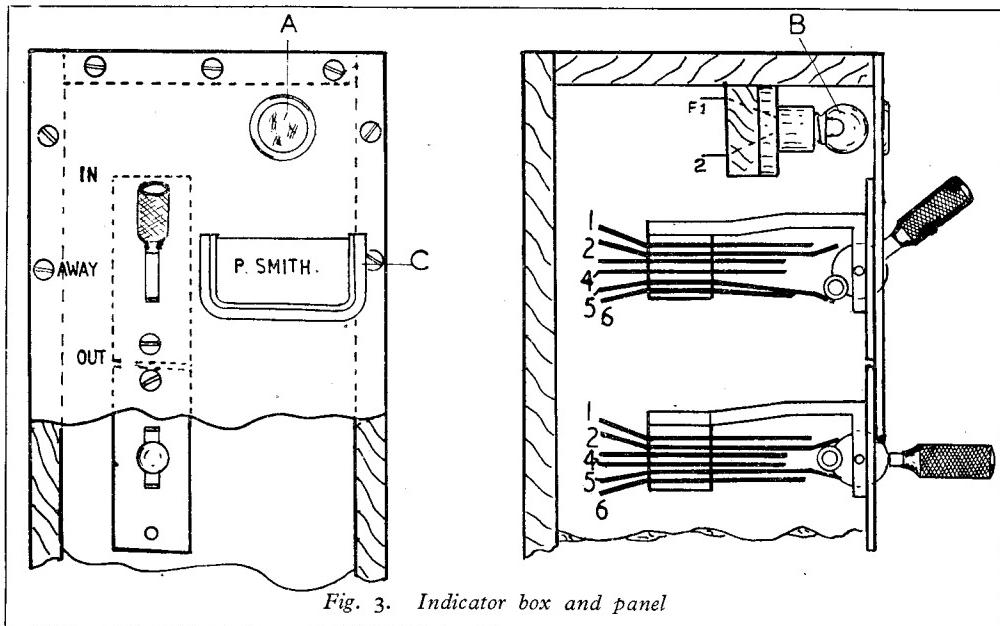

Fig. 3. Indicator box and panel
Fig. 3 shows a portion of the indicator unit,
The theoretical circuit diagram, Fig. 2, illustrates the key switches as being side-by-side, but in practice, most readers will probably prefer to place the switches vertically, as shown in Fig. 3.
*Fig. 3. Boring the headstock bearing. The cutter of the boring bar can be seen just about to start the cut. Note small gap between pulley and left-hand bearing, as mentioned in the text*
as far as possible and that of the left-hand bearing adjusted for a good running fit. The right-hand end of the boring bar was supported by the tailstock centre (Fig. 3).
As shown in Fig. 3, a small "pocket" C of brass or aluminium should be fixed against each key switch to take a piece of card with the tenant's name neatly printed thereon ; if a strip of white celluloid is available, the name may be printed on in Indian ink, but if paper or card is used, it is advantageous to wrap them in cellophane to keep from getting soiled.